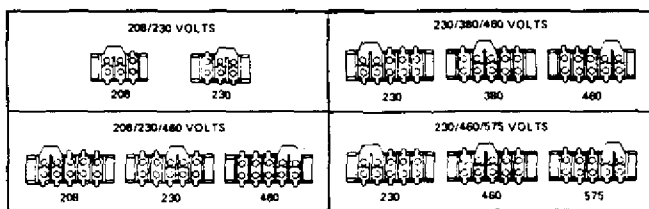

Figure 3-5. Primary Voltage Jumper Link Arrangement
4. Loosen the two screws securing the jumper link and move to position to match primary supply according to the hook-up shown in Figure 3-5. Tighten all screws securely.